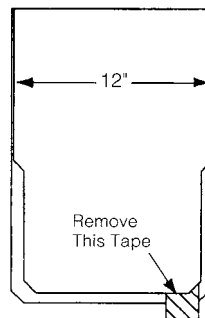

Figure 17-14: Shangle Ridge®.
5. Before nailing, be sure to remove the protective tape from the sealant between the cap's two layers (Figure 17-14).